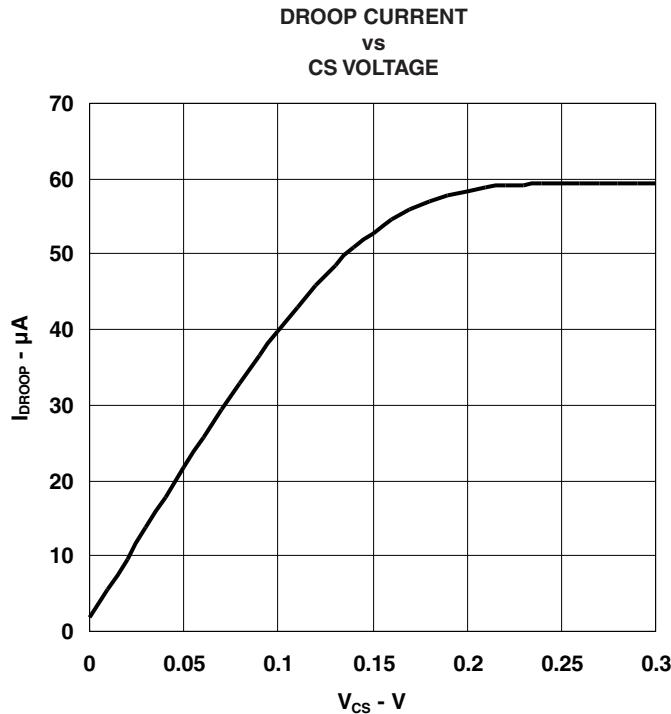

Figure 6.
(1) I_{DROOP} is relatively linear vs V_{CS} and is typically $40 \mu A$ at $V_{CS} = 100 mV$. Above $V_{CS} = 100 mV$, I_{DROOP} becomes nonlinear, rolls off, and saturates to approximately $50 \mu A$ to $65 \mu A$ when $V_{CS} > 200 mV$ (see Figure 6). Thus, above $100 mV$, Equation 9 is not accurate.